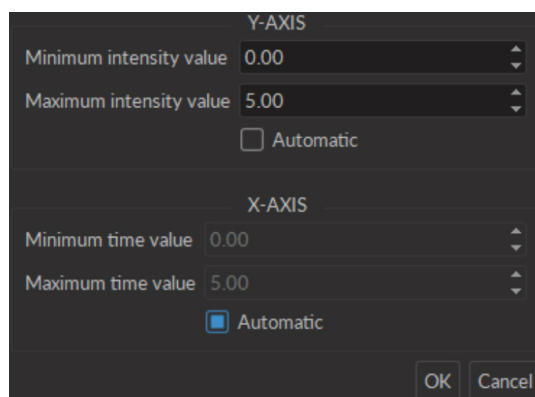

Figure 4.34: Set Zoom Window
- The **Set Zoom** button opens the **Zoom window** (Fig. 4.34). The minimum and maximum values of each axis can be defined. The **Automatic** checkbox chooses axis values to fully display the entire data set.